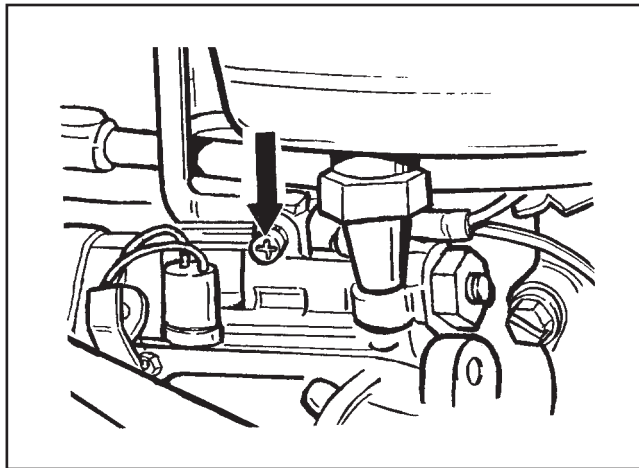

Figure 2C-2. Idle Speed Setscrew
1. Start and warm up the engine to normal operating temperature. Move the hand throttle and governor control levers to forward positions. Adjust the idle speed setscrew to obtain 900 RPM (see Figure 2C-2).
2. Adjust the counterbalance screw (see Figure 2C-3) to obtain proper deflection in both cables. Proper cable deflection is 1/8 to 3/16 inch.